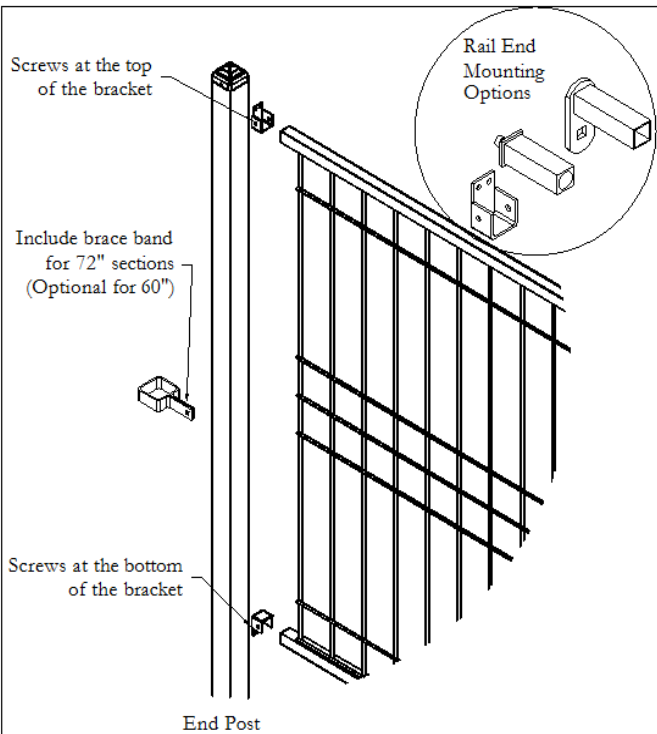

FIGURE 1
6. **Traditional System (and Passby End Sections only):** Sections will proceed from post to post using 4 of the selected rail ends (see Figure 1). Attach brackets as shown, or, if using screwless rail ends, drill 3/8” holes at 46¾”, 57¼”, or 68¼” center to center for 48”, 60”, and 72” fence heights respectively. For 72” height fence, use the 2-way Boulevard Bands provided for additional horizontal structural support on the line posts and use the Brace Bands on the end and corner posts (optional for 60” height). These should be placed approximately 36” below the top rail and adjusted for appearance. Adjust the bracket height to take into account any space under the fence due to the slope of the ground. When the top and bottom brackets on a post are installed facing opposite directions, it is not necessary to use screws into the rails, however they may be added if desired.